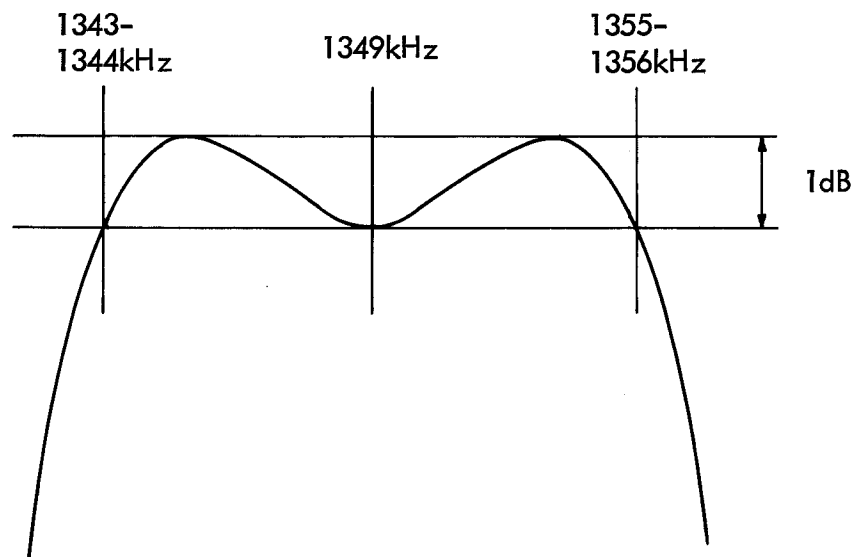

Fig. 4.3.1. Frequency response at Test Point 1.
3. Remove lid of Tunable IF module and using the high impedance probe at test point 1 adjust L1-4 to obtain the response shown in Fig 4.3.1.
4. Select range 5, adjust the FINE TUNE control over its full range and check that, although the frequencies change, the shape of the curve in Fig 4.3.1 remains substantially the same. If the shape alters it is probable that one of the varicap diode circuits D1-D4 is faulty. Remove the Spectrum Analyser.
6. Remove the 10k $\Omega$  resistors connected at step 2, reduce the generator output to give 30mV at TP1 and check that the response is as shown in Fig 4.3.1. Remove Signal generator and RF millivoltmeter.